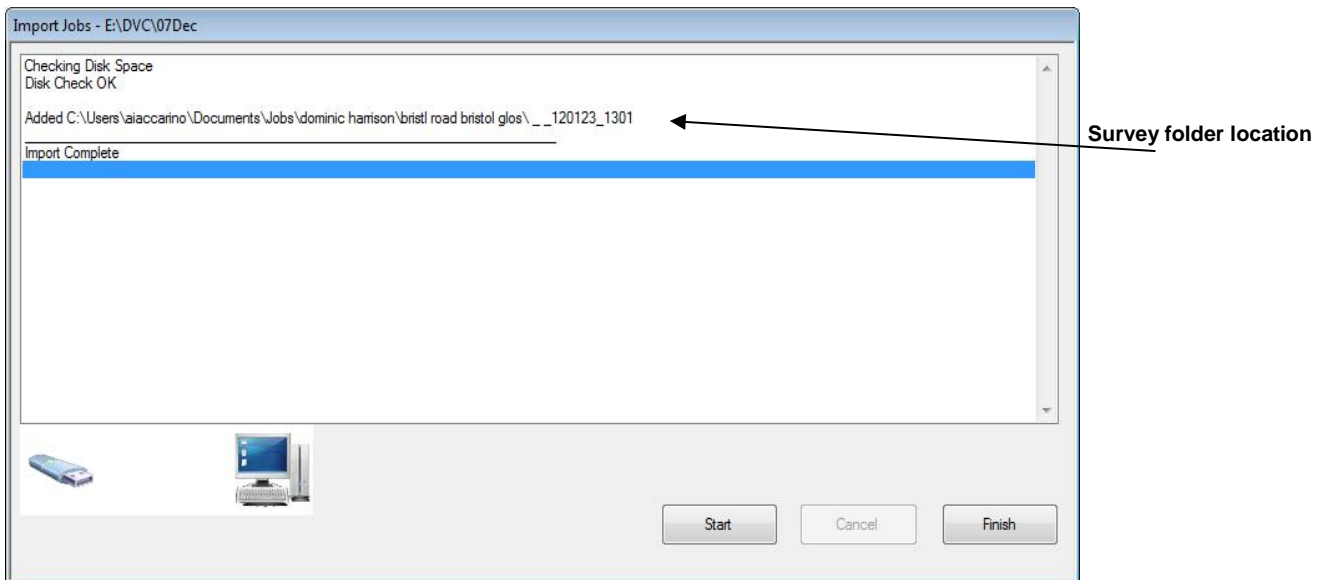

Figure 3.21 Import Screen
- FSM will create a new survey folder associated to a new or existing client and/or site. The import screen shows the location of the folder associated to the survey in the Jobs folder (see Figure 3.21). Press **Finish** to continue.